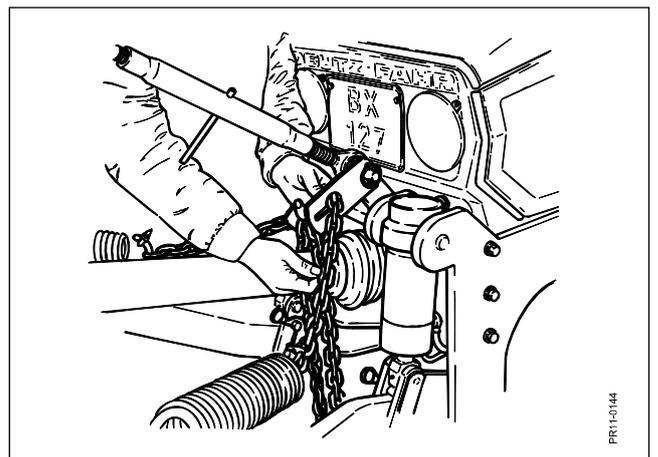

Fig. 2-4
- Fig. 2-4** Mount pin and chain fittings on the tractor side. Mount the relief springs on the A-frame of the machine.